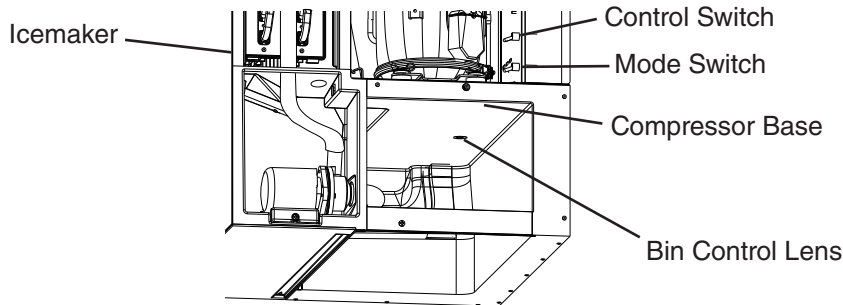

Fig. 20
- 6) 1 min. fill cycle begins. Place an object 5" to 7" (127 to 178 mm) away from the bin control lens. See Fig. 20. 15 sec. later, the icemaker shuts down. Remove the object from the bin control lens. 30 sec. later, the icemaker restarts.